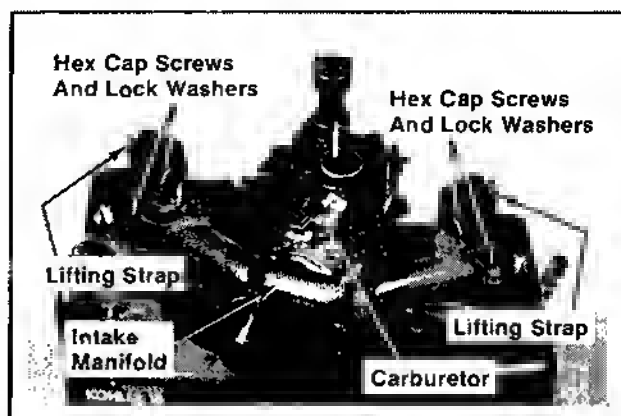

Figure 9-7. Removing Intake Manifold and Carburetor.
4. Remove the hex. cap screws, split lock washers, lifting straps, intake manifold with carburetor, and intake manifold gaskets. Refer to Figure 9-7.